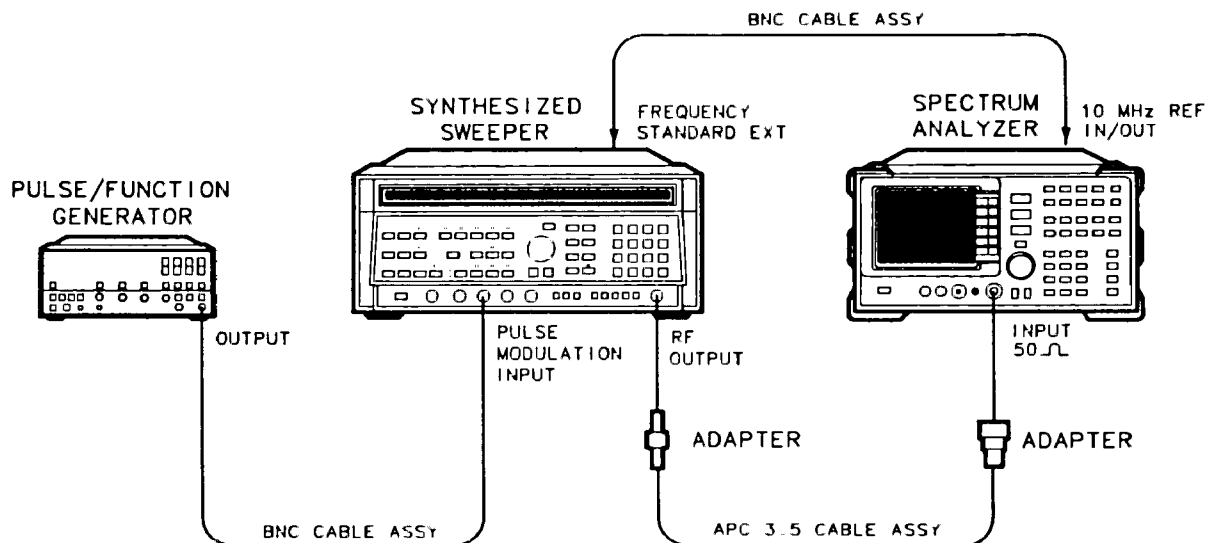

Figure 3-13. Pulse Digitization Uncertainty Test Setup
1. Connect the equipment as shown in Figure 3-13.